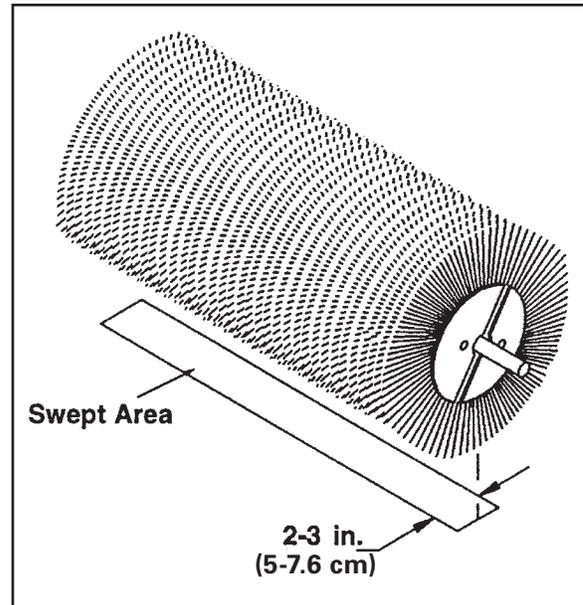

Figure 19
4. Raise the sweep and back away; switch off the engine and remove the key. The brush pattern left in the dust should be 2-3" wide, running the entire length of the brush. (Compare the swept area with Figure 19.)